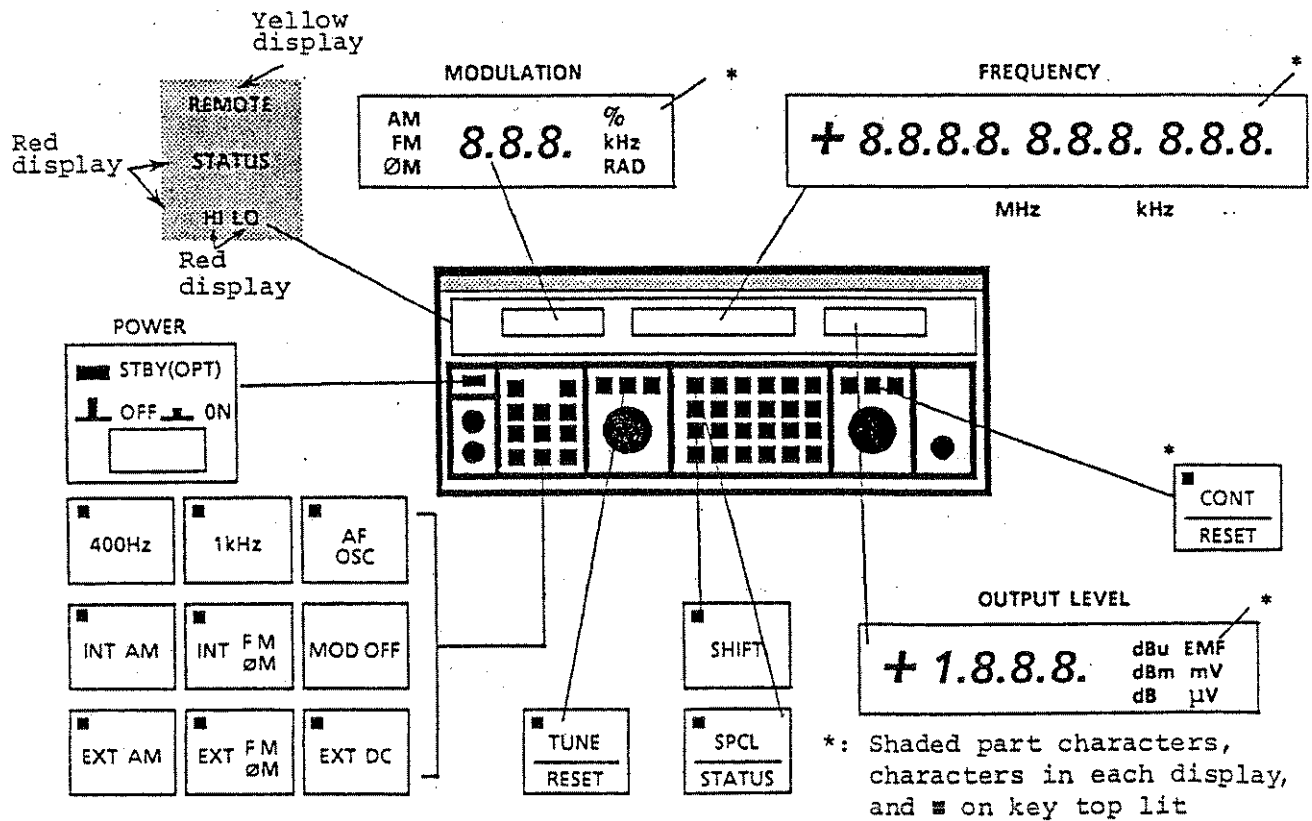
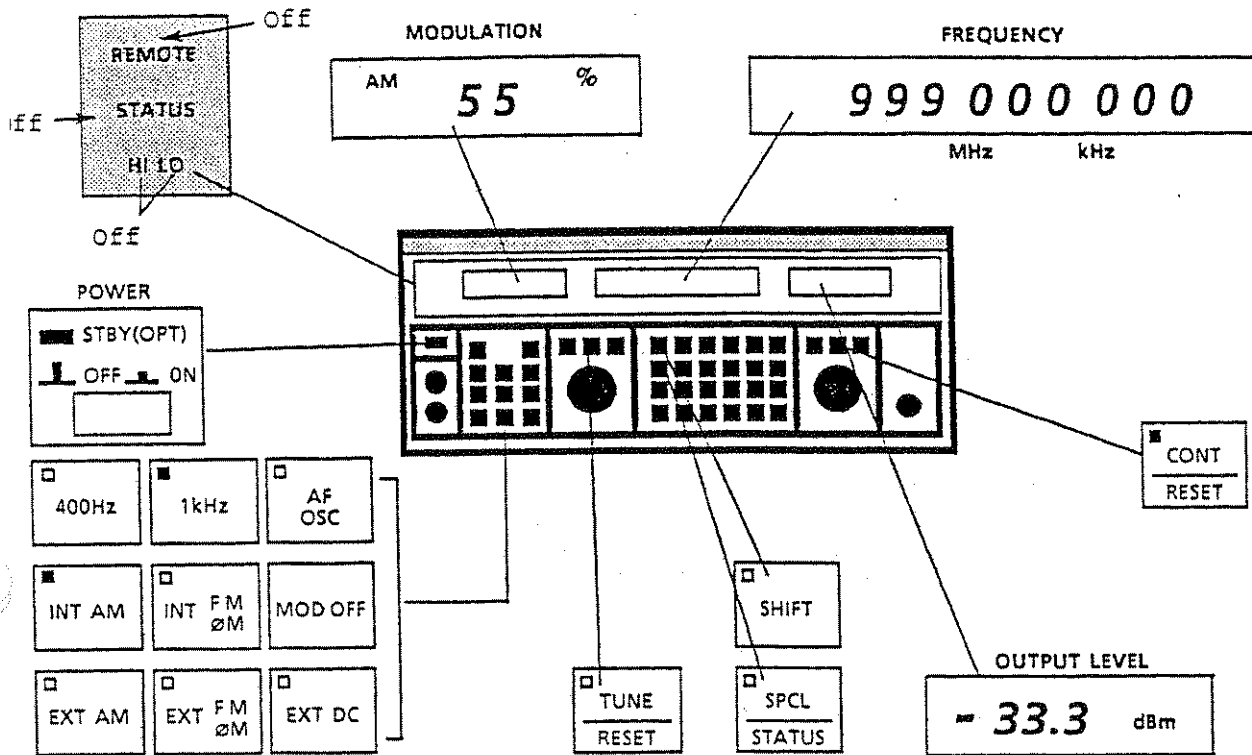

Fig. 3-3 Lighting of All LCDs and LEDs at POWER ON
Fig. 3-4 Set Parameters Immediately before POWER OFF
When the power is turned on, all the LCDs and LEDs on the front panel, except STBY, light for one second while the internal processor initial routine is executed. (Shaded area characters and LEDs indicated by ■ on the key top in Fig. 3-3)
About one second after POWER ON, Fig. 3-3 changes to Fig. 3-4.
1	Check that all the LCDs and LEDs on the front panel light for approximately one second as described in paragraph 3.1.2 (2) and Fig. 3-3 immediately after power-on.